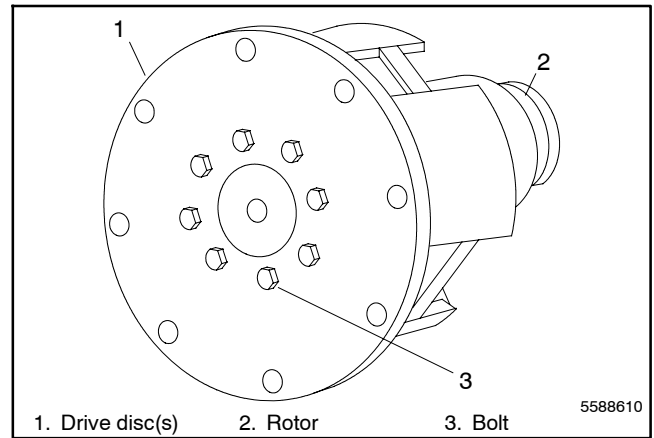

Figure 15-10 Drive Disc(s)
18. Clamp the rotor in a soft-jaw vise. Remove the eight bolts and remove the drive disc assembly from the rotor. See Figure 15-10.